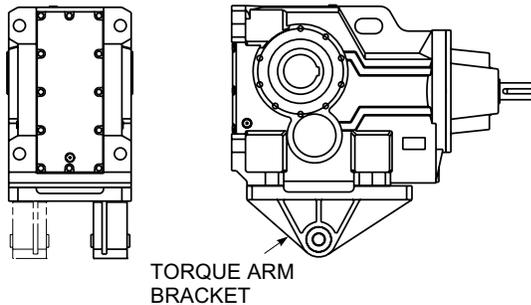

Figure 6
3. Assemble torque arm bracket to drive in the required position (see Figure 6) and secure using the fasteners furnished. Torque fasteners to the value shown in Table 4 — Tightening Torques.